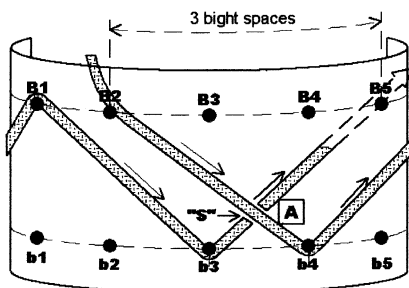

Figure 7a (4x5)
- At Fig.7a the active strand b3-B5 crosses the passive strand B2-b4 at